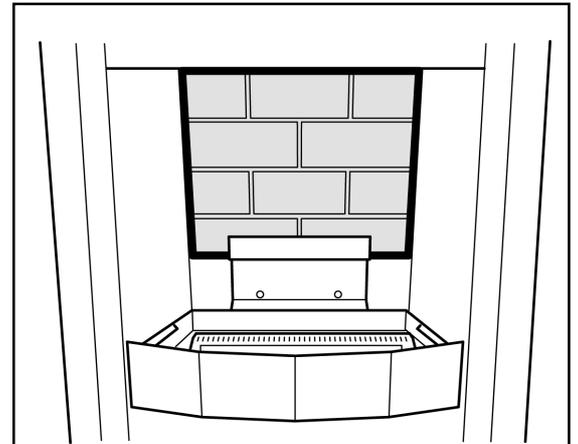

Figure 4. Ceramic Rear Wall Position.
1. Fit the ceramic rear wall into the bracket at the back of the firebox .See figure 4.